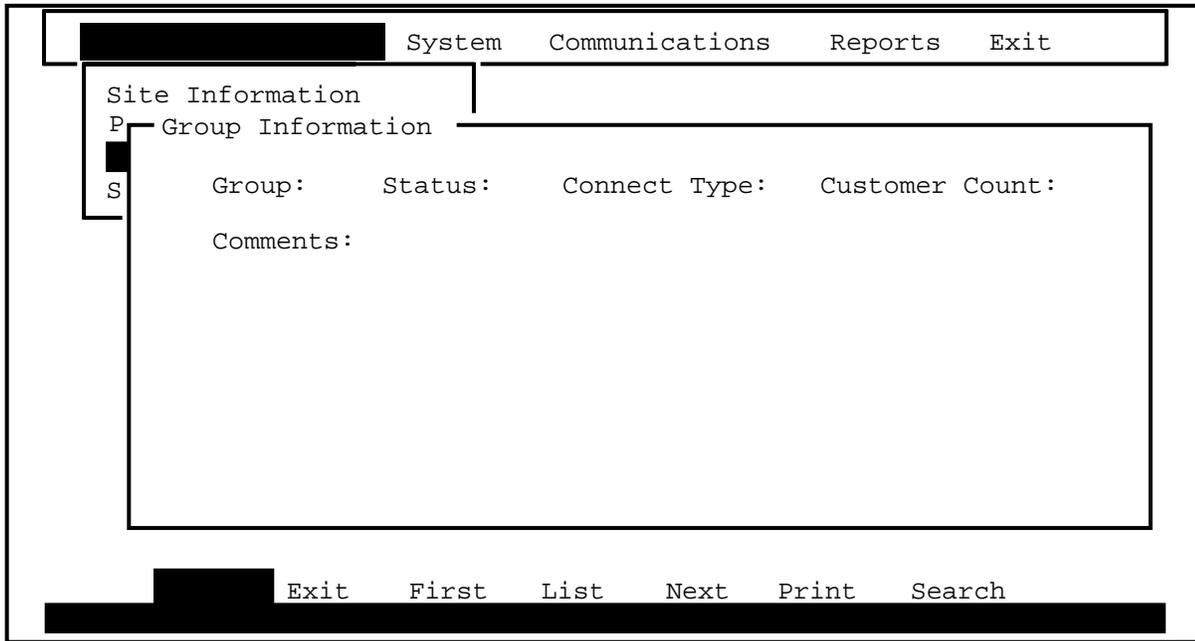

Fig. 3-7
3.24 Field Information. The following list describes the information required as data for the fields of the group information screen (see Fig. 3-7).